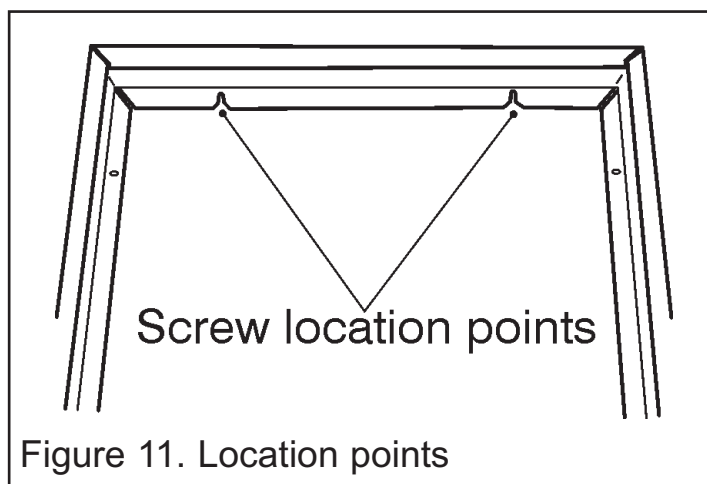

Figure 11. Location points
2. The top rear flange of the spacer frame has two screw locations. Mark the positions of the two screw locations on the rear wall (See figure 11).